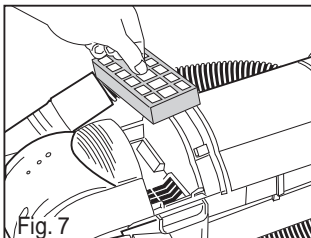

Fig. 7
- 1) Lower handle to floor and remove HEPA filter (Fig. 7).